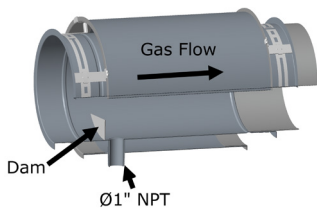

Figure 73 - Horizontal Length (HDL)
The Horizontal Drain Length (HDL) has the same function and dimensions as the Drain Length (DL), but used on horizontal run and has a dam just below the NPT Drain instead of a gutter. The dam directs the water through the drain See Figure 73.